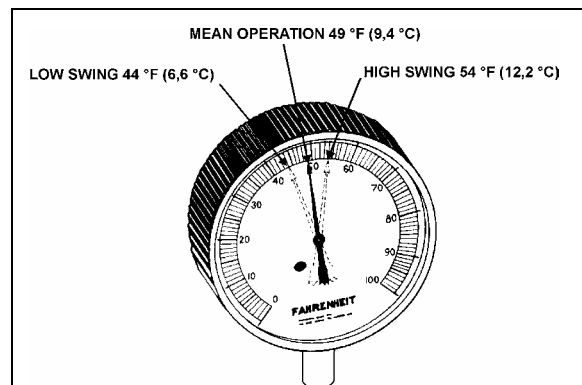

FIGURE 36: HIGH & LOW SWING TEMPERATURE AT REMOTE BULB
6. Check approximately 5 readings of pressure at 2-minute intervals and convert to temperature using the temperatures & pressures table (page 31). Likewise check the temperature reading at the remote bulb at the same 2-minute intervals and record the low and high swing readings of the needle (refer to Fig. 36).
Example of readings taken at fig. 36: